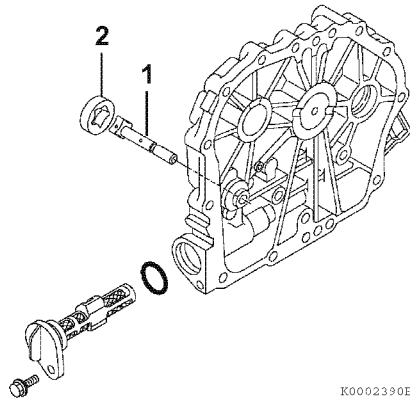

Figure 6-75
8. Remove the inner rotor, shaft assembly (1, **Figure 6-75**) and outer (2, **Figure 6-75**) rotor from the crankcase cover.